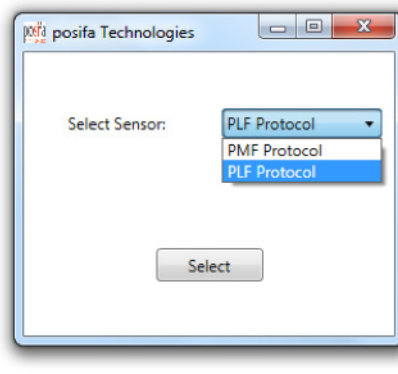

Figure 5
- In the pop-up window that appears next (Figure 5), use Select Sensor drop-down menu to select PLF Protocol: